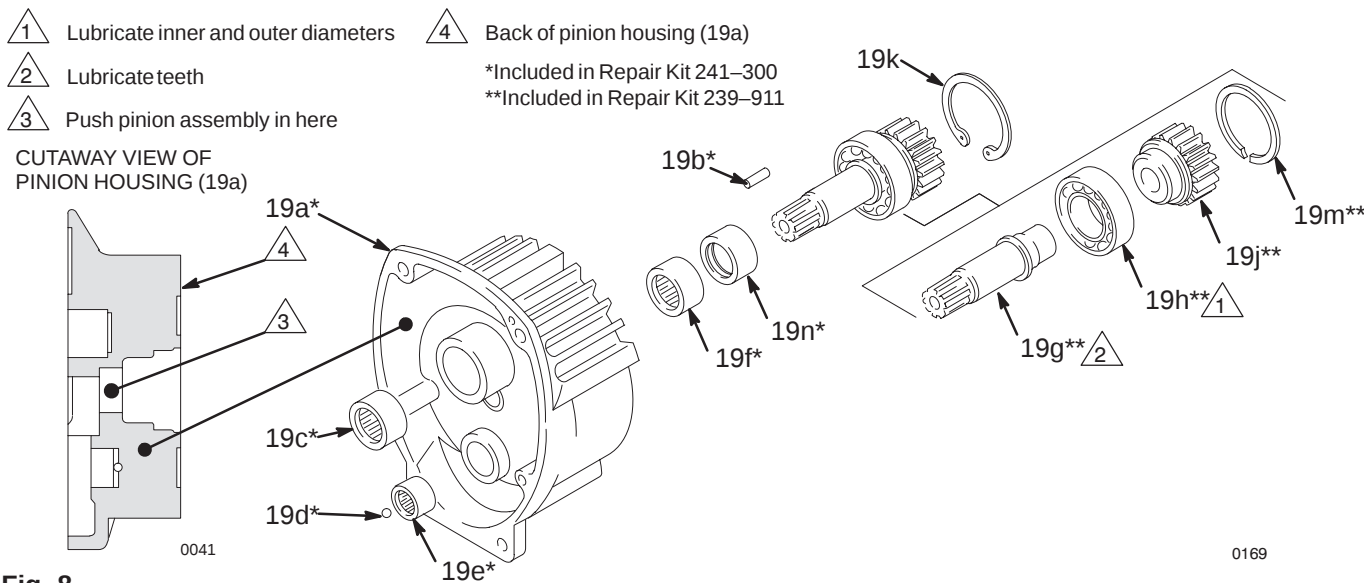

Fig. 8
NOTE: Refer to Fig. 8 except where noted.
5. Apply lubricant to the parts as shown in Fig. 8.